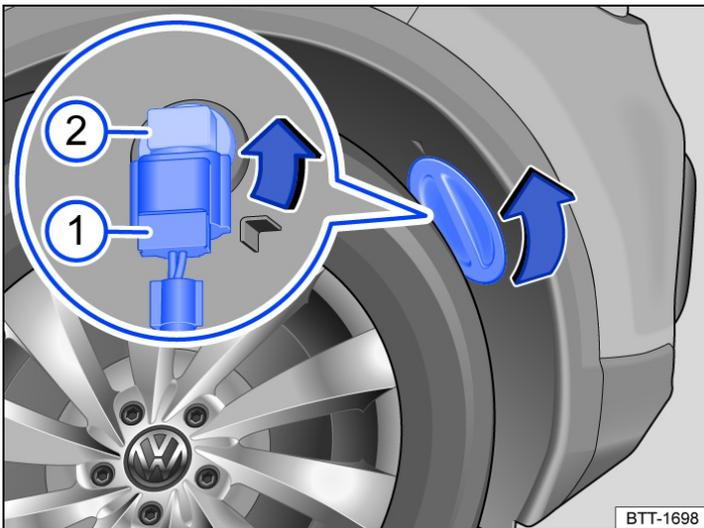

Fig. 1 In the front bumper on the right: changing a bulb in the headlight.
3. Turn the cover in the wheel housing liner in the direction of the arrow and pull it out → *Fig. 1*.